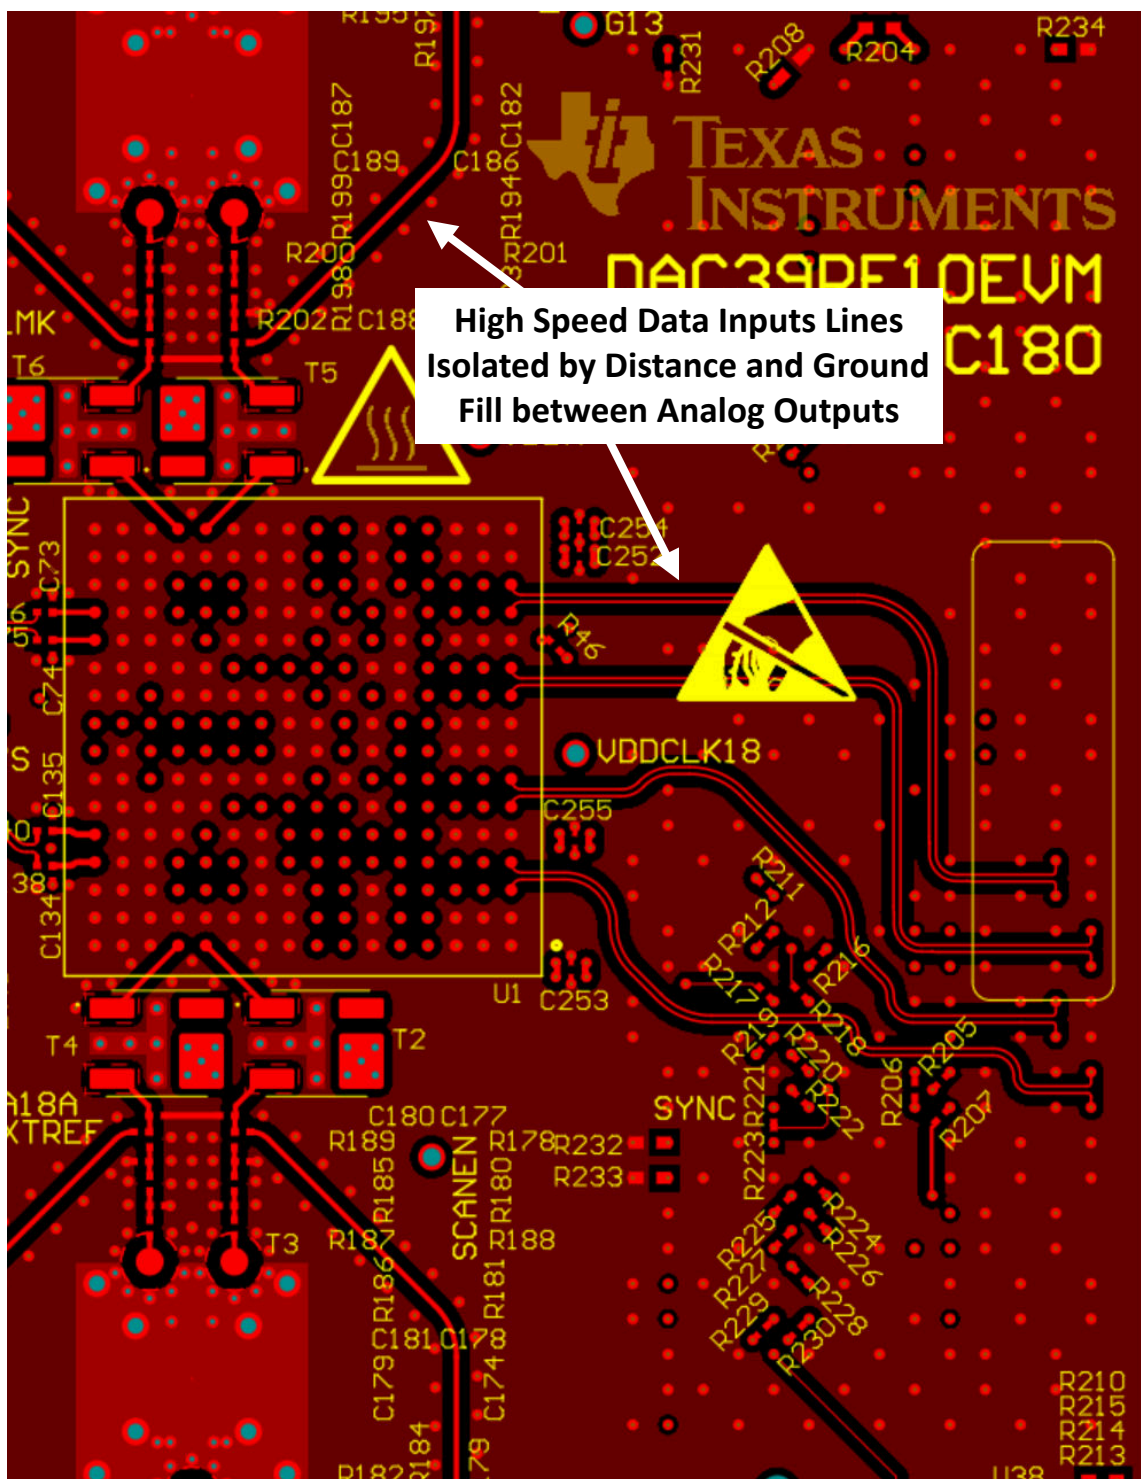
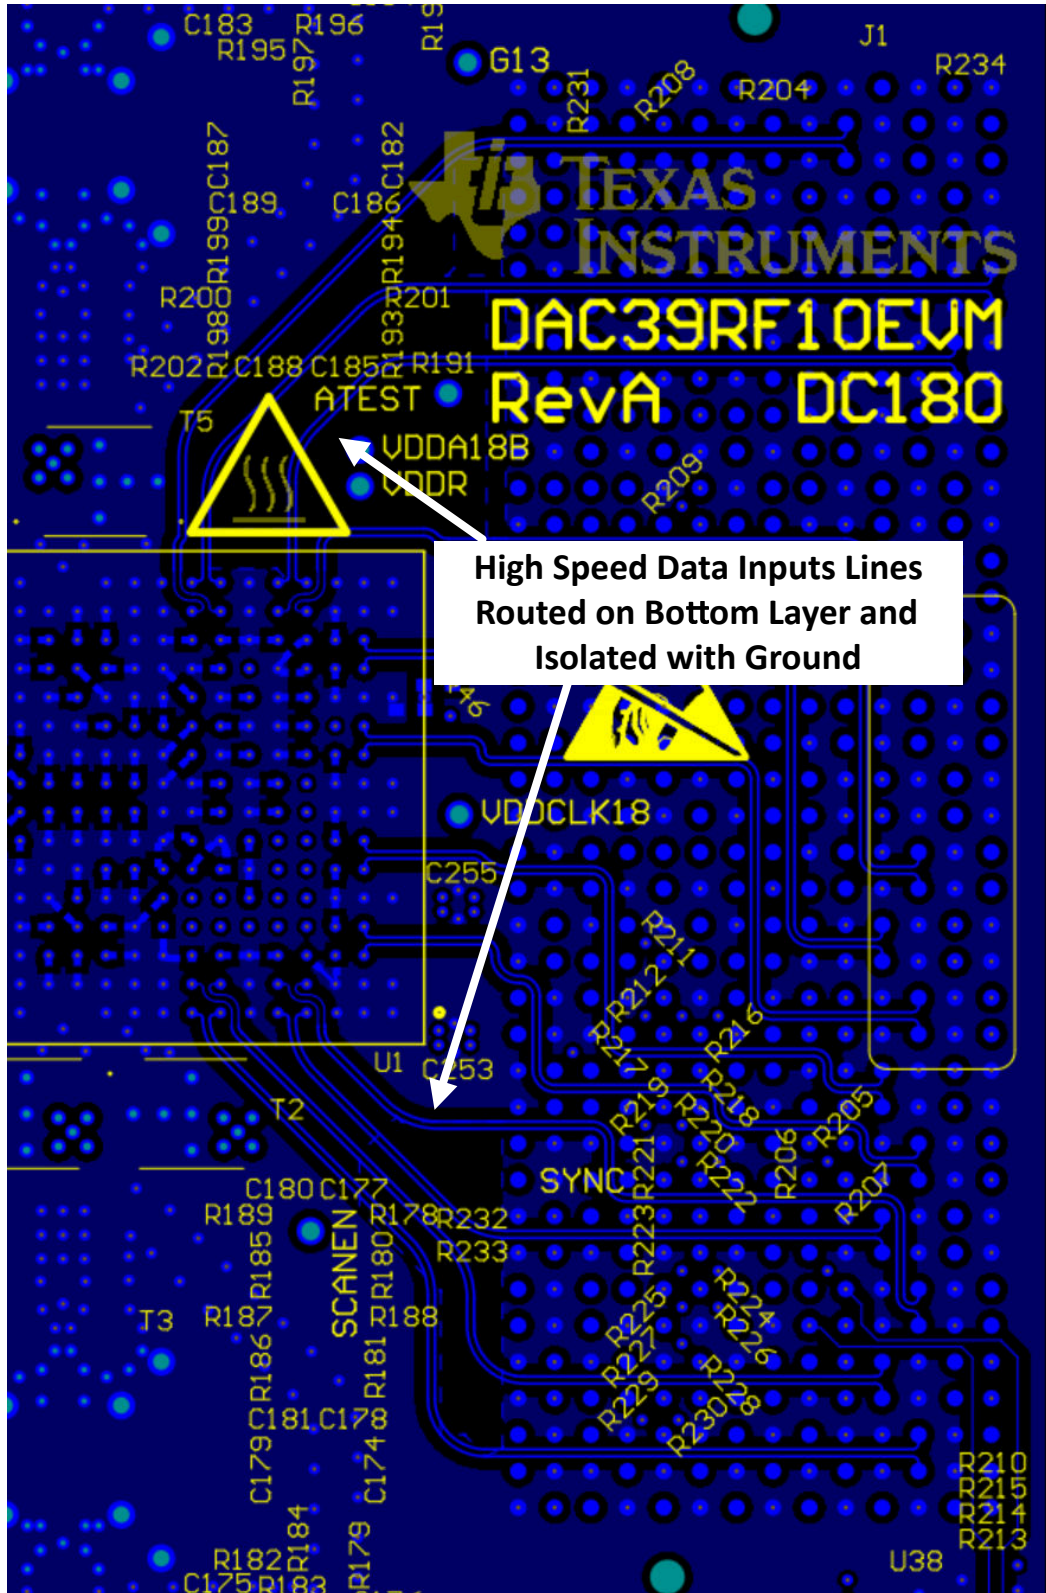

Figure 8-28. Serdes Top Layer Routing with Ground Fill Isolation
Figure 8-29. Serdes Bottom Layer Routing with Ground Isolation
9. Pay particular attention to potential coupling between JESD204x data input routing and the analog output routing. Switching noise from the JESD204x inputs can couple into the analog output traces and show up as wideband noise due to the high bandwidth of the DAC. Route the Serdes JESD204x data inputs on a separate layer, if possible, from the DAC output traces to avoid noise coupling, see Figure 8-28 and Figure 8-29 as examples.